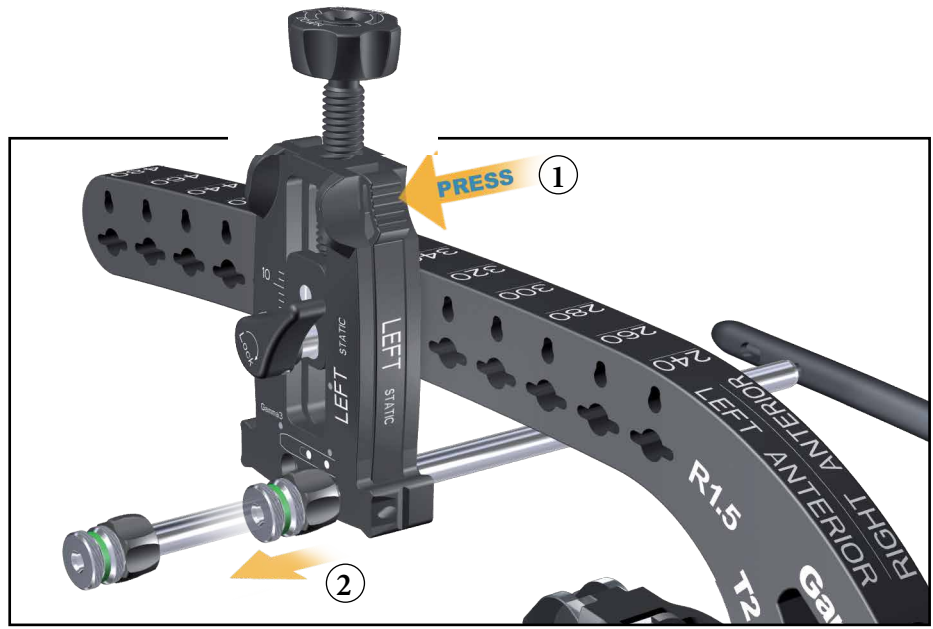

Fig. 17
After the calibration steps have been completed, remove the Sleeve Assembly (Fig. 17 ②) by pressing the Sleeve Fixation Button (Fig. 17 ①) of the Adjusting Device.